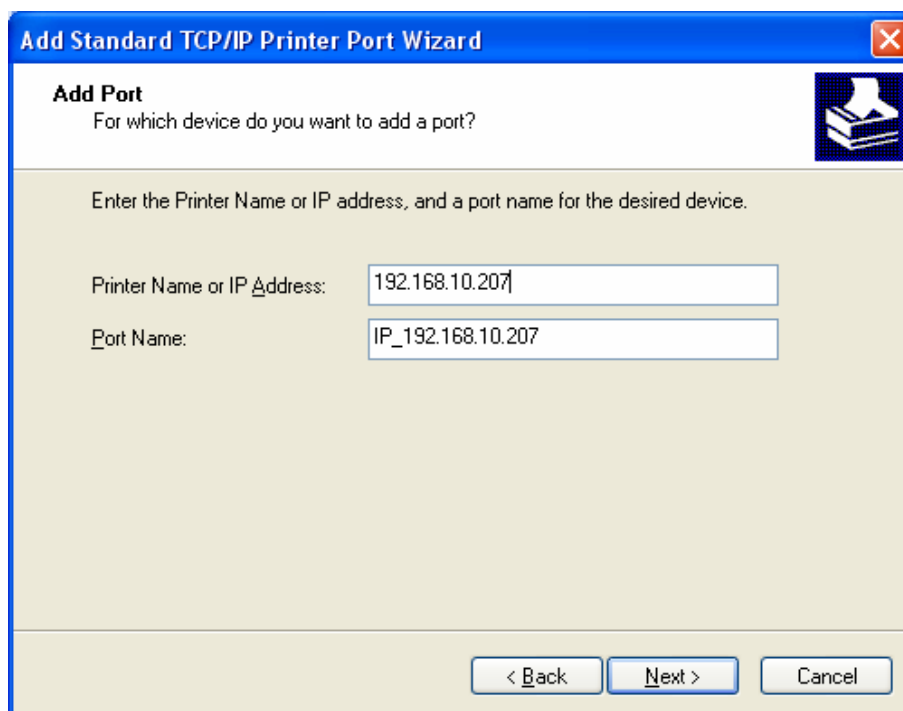

Figure 5.3.5 Add TCP/IP Print Port
- Fill with "printer name or IP Address" in corresponding editing column as figure 5.3.5, of which the content is same with self-test page of printer, and then click "Next" Button.